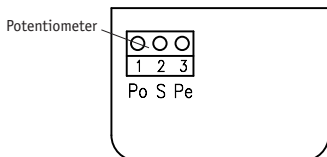

Fig. 4: Pin connection without instrument transformer
With PG9 (fig. 4):
- Connect strands to the clip terminals (fig. 4 and 5).